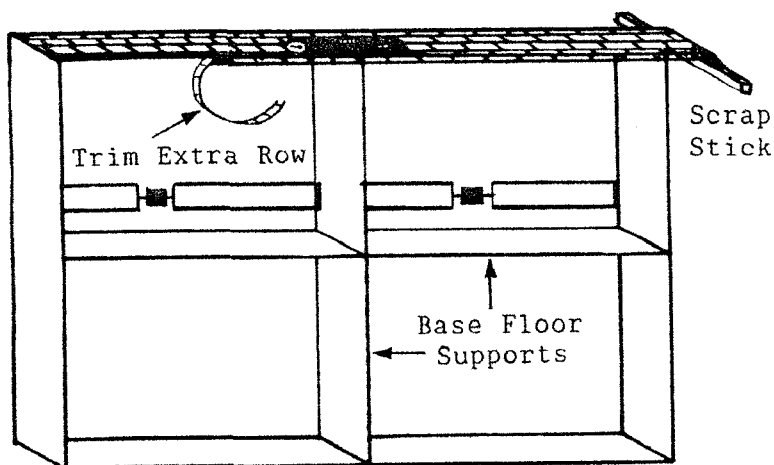

Figure 14
5. Carefully trim the extra row off. Save this row, you may be able to use it later on the fireplace or chimney. Figure 14.